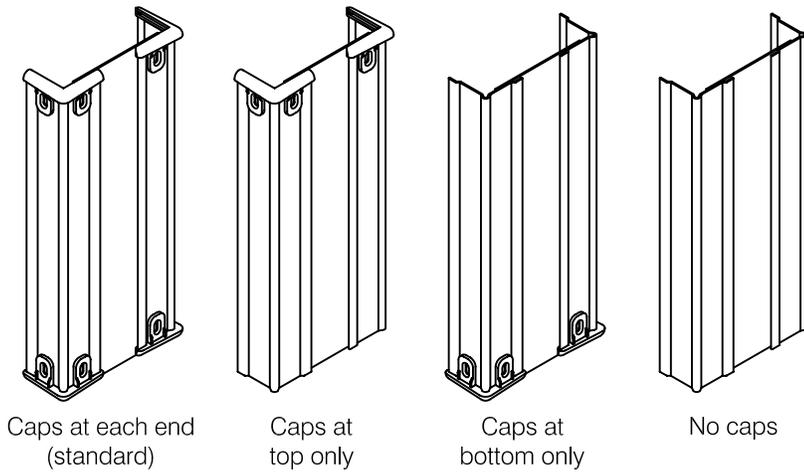

fig 1
**Step 1:** This series of end wall guard is available with molded closure caps. While the installation of caps at each end is considered standard, 2320 may also be installed with no caps or with caps at either end, see **fig 1**.